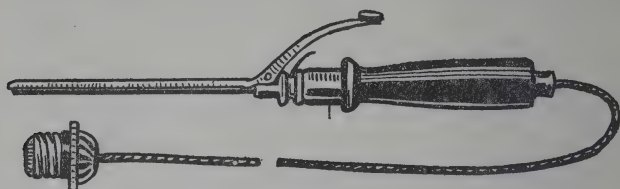

Fig. 79
11. *Electric Curling Iron* (Fig. 79).—One who has flat hair needs no curling iron, but those who have round hair may curl it temporarily, if they